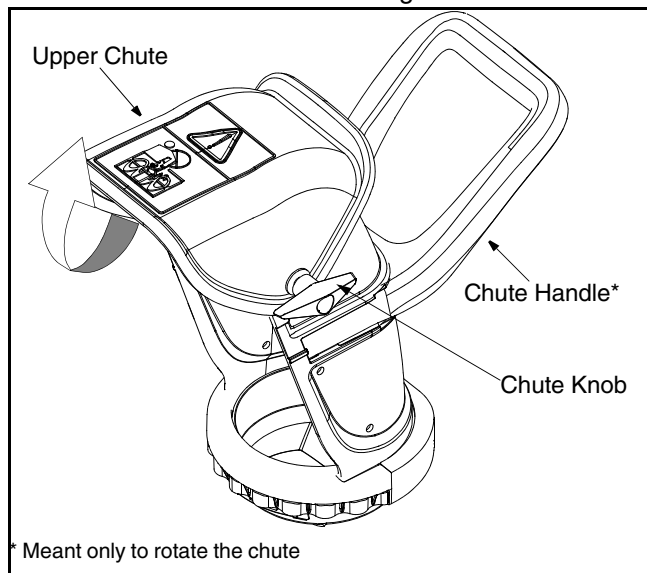

Figure 1
- Loosen the hand knob on the upper chute and pivot the upper chute upwards as far as it will go. Follow the direction of the arrow in Figure 1.
- Tighten the chute knob on the upper chute making sure the flat washer and the carriage bolt are correctly positioned. Refer to Figure 1.